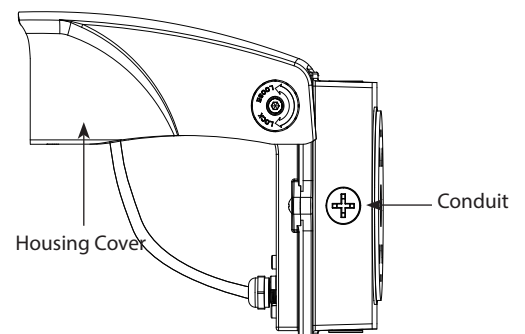
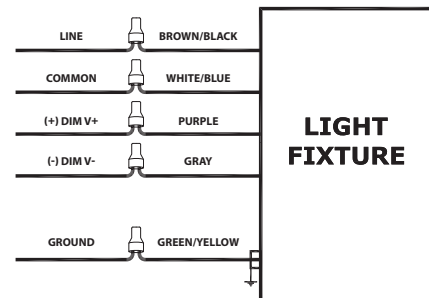

Fig: 2
Fig: 13
2. Open Housing Cover and rotate to a 90° angle as shown in Fig. 2.
7. Wire the Housing leads to supply wires using UL listed wire connectors according to NEC and local codes (Fig. 13). Push all wires into the housing.
10. For Conduit wiring, remove Side Conduit Cap using a screwdriver as shown in Fig. 2. Feed supply wires through conduit opening with a suitable connector. Wire the Housing leads to supply wires using UL listed wire connectors according to NEC and local codes (Fig. 13). Push all wires into the housing. Follow mounting instructions.
Universal voltage driver permits operation at 120V thru 277V, 50 or 60 Hz. For 0-10 Dimming, follow the wiring directions as in **Fig. 13**.